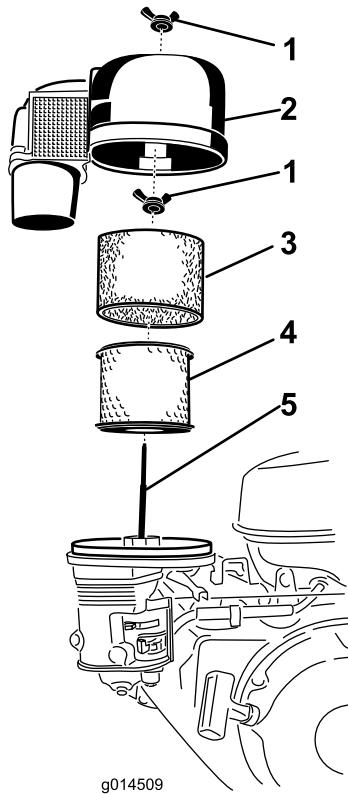

Figure 40
1. Remove the wing nut and lift off the air filter cover and cyclone housing (Figure 40).
3. Remove the wing nut on top of the air filter and remove the paper filter (Figure 40).
5. Align the air-filter element on the lower air-filter housing and secure it with the wing nut removed in step 3 (Figure 40).
6. Position the foam pre-filter over the air-filter element (Figure 40).
7. Align the air-filter cover and cyclone housing with the stud and lower air-filter housing, and secure the cover with the wing nut removed in step 1 (Figure 40).
2. Remove the wing nut on top of the air filter and remove the pre-filter and air-filter element (Figure 40).
3. Align the new pre-filter and air-filter element with the lower air-filter housing and secure it with the wing nut removed in step 2 (Figure 40).
4. Align the air-filter cover and cyclone housing with the stud and lower air-filter housing, and secure the cover with the wing nut removed in step 1 (Figure 40).